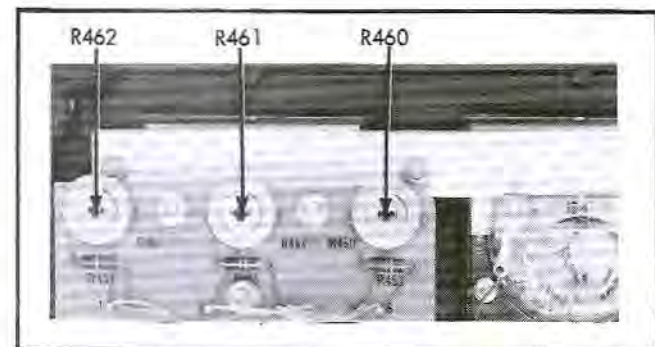

Figure 4-2. BATTERY CHECK CALIBRATION ADJUSTMENTS
- Adjust R462 (see Figure 4-2) for a PERCENT INPUT meter indication at the lower limit of the BAT OK band.
- Adjust R461 (see Figure 4-2) for a PERCENT INPUT meter indication at the lower limit of the BAT OK band.
- Adjust R460 (see Figure 4-2) for a PERCENT INPUT meter indication at the lower limit of the BAT OK band.